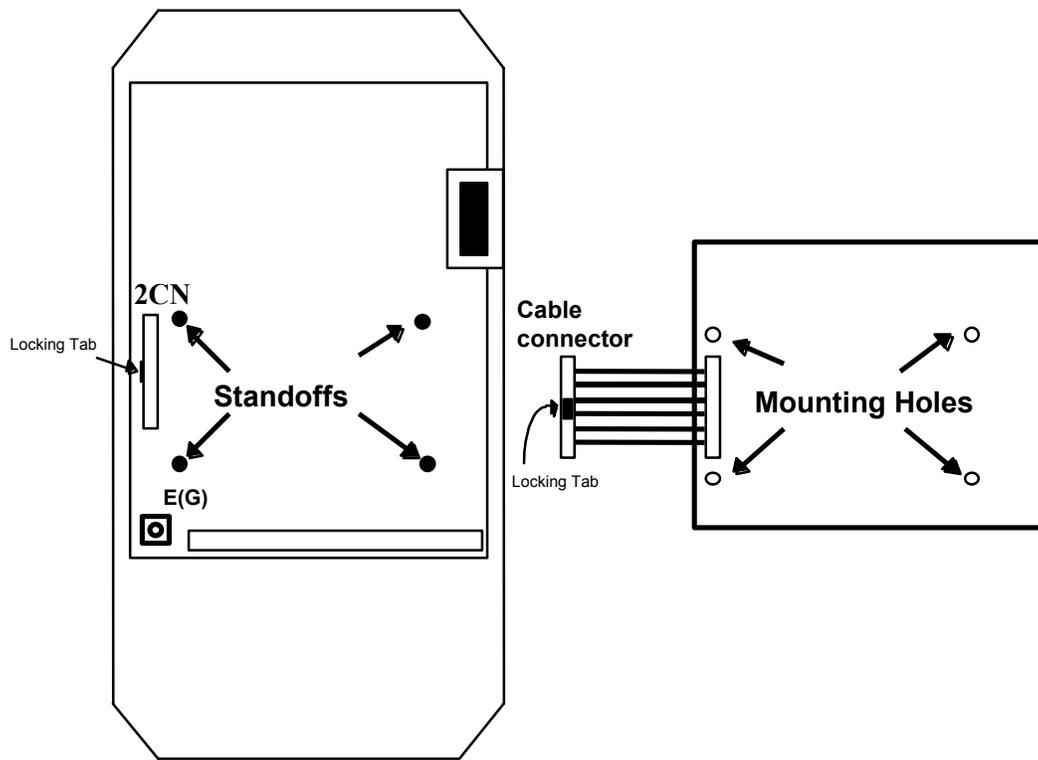

Figure 4. Option Card Positioning
- Step 3.** Position the option card so that the 12-pin interface cable is to the left, as illustrated in **Figure 4**. Carefully press the attached cable connector into connector 2CN until it is firmly seated. Please note the orientation of the locking tab relative to the connector mounted on the control board.